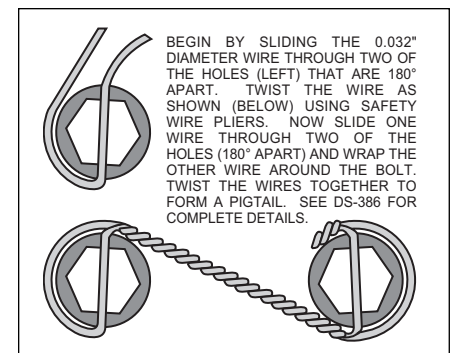

Figure 3. Safety Wire Diagram
- With the larger I.D. side of the rotor (3) facing away from the hat (4), bolt rotor (3) to hat (4) through the backside of the rotor using washers (5) and bolts (6). Torque bolts (6) in an alternating sequence to 180 **in-lb**. Safety wire bolts (6) using standard 0.032 inch diameter stainless steel safety wire as shown in Figure 3. Please refer to Wilwood's data sheet DS-386 (available at [www.wilwood.org/ds386.pdf](http://www.wilwood.org/ds386.pdf)) for complete safety wire installation instructions. Slide the rotor/hat assembly onto the spindle. Check to be sure the hat seats squarely against the hub. Install a couple of lug nuts (finger tighten) to keep the rotor/hat assembly in place while continuing with the installation.
- Install two spacers (8) and one shim washer (9) over each pre-installed stud (10) on the radial mount bracket (1). Slide the caliper (7) in place over the studs and rotors and install the washer (11) and lock nut (12) to hold the caliper in place. The caliper bleed screws should be pointing up. Snug the lock nuts (12) and check that the rotor (3) is centered in the caliper (7). Add or subtract .024" shims (2) as necessary between the caliper mounting bracket (1) and the spindle to center the caliper (7).
- Remove the two caliper center bridge pad retainer bolts, nuts, tubes, and anti-rattle spring from the caliper. Slide the brake pads (13) into place. They should install easily without interference. Check that the outside radius of the brake pad is aligned with the outside diameter radius of the rotor face. Add or subtract shims (9) between the caliper and mount bracket to gain the proper alignment. Reinstall the center bridge pad retainer tubes, bolts, locknuts and anti-rattle spring. The locknut should be snug without play in the bolt or tube. Be cautious not to over tighten.
• Once all clearances have been checked, remove the wheel, caliper, hat, and rotor from the spindle and hub. Secure the caliper mounting bracket (1) to the spindle with stock bolts using red *Loctite*® 271. Torque the bolts to manufacturer's specification. Reinstall the hat and rotor assembly and again use lug nuts to hold it in place. Reinstall the caliper and torque the caliper nuts (12) to 47 ft-lb.